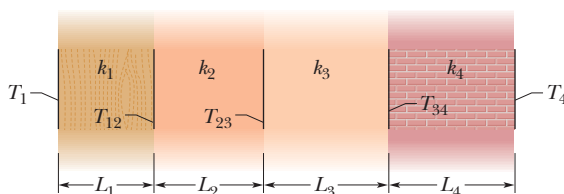

Figure 18-49 Problem 63.
**••63**  Figure 18-49 shows (in cross section) a wall consisting of four layers, with thermal conductivities  $k_1 = 0.060\text{ W/m}\cdot\text{K}$ ,  $k_3 = 0.040\text{ W/m}\cdot\text{K}$ , and  $k_4 = 0.12\text{ W/m}\cdot\text{K}$  ( $k_2$  is not known). The layer thicknesses are  $L_1 = 1.5\text{ cm}$ ,  $L_3 = 2.8\text{ cm}$ , and  $L_4 = 3.5\text{ cm}$  ( $L_2$  is not known). The known temperatures are  $T_1 = 30^{\circ}\text{C}$ ,  $T_{12} = 25^{\circ}\text{C}$ , and  $T_4 = -10^{\circ}\text{C}$ . Energy transfer through the wall is steady. What is interface temperature  $T_{34}$ ?